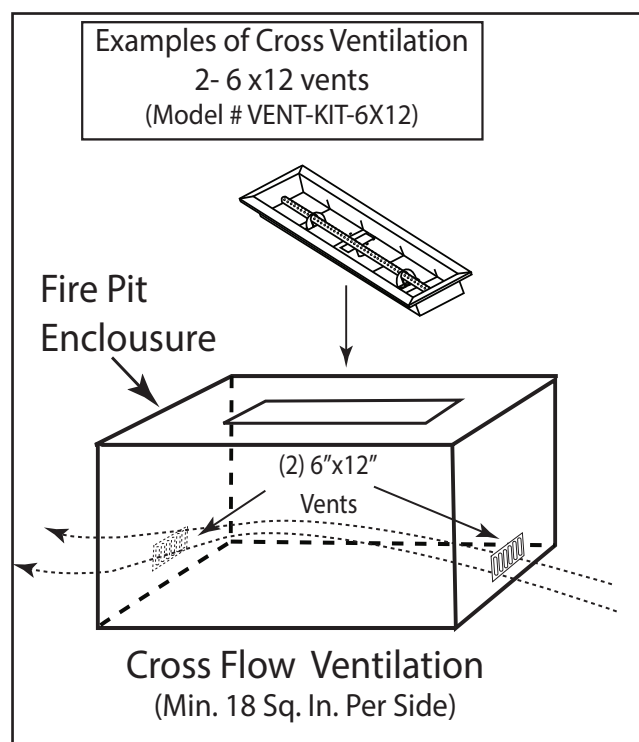

Fig. 4 Cross ventilation example
Fire pits are subjected to many outdoor elements such as rain, snow, wind, heat or cold. **A minimum of 18 square inches (two opposite sides) of cross ventilation is required to keep the components in good working order.** Use Fig. 4 as guide to assist to incorporate proper ventilation.
6. **CAUTION: A minimum of 18 square inches of cross ventilation (opposite side) is required to keep the enclosure dry. See Fig. 4 page 6.**